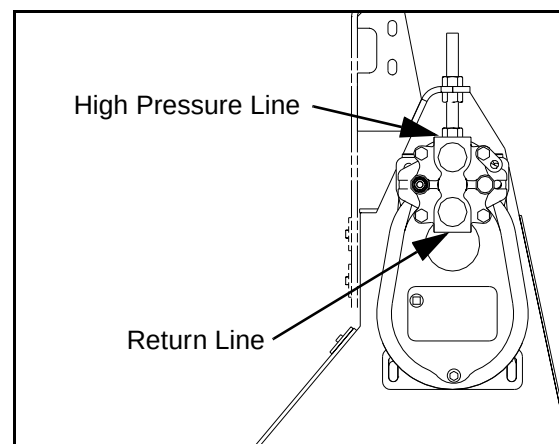

Figure 5 - 24 Spreading Auger Hydraulic Motor
- 2) Disconnect high pressure line to the spreading auger hydraulic motor and plug line. (Figure 5 - 24)